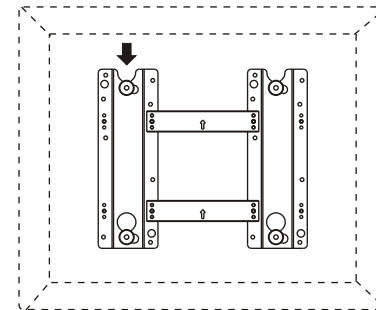

Fig.6
6. Let the display unit slowly slide down to the end of the calabash-shaped hole. (Fig.6)